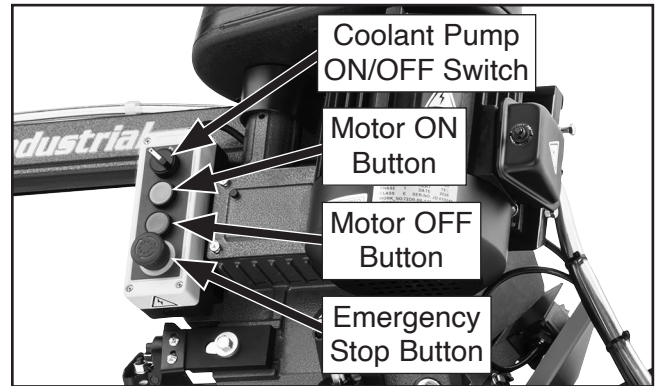

Figure 29. Control panel controls.
2. Press Emergency Stop button (see **Figure 29**).
3. Move coolant pump ON/OFF switch to OFF position (see **Figure 29**).
9. Press motor ON button (see **Figure 29** on **Page 23**) to start blade and verify motor operation.
10. Rotate coolant pump ON/OFF switch to ON position (see **Figure 29** on **Page 23**) to start coolant pump and verify pump operation.